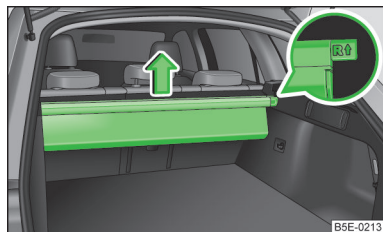

Fig. 94
- Remove the multifunction box from the receptacle in the direction of the arrow » Fig. 94.
- When inserting, push the end of the bar marked **R** ↑ into the right receptacle and the end of the bar marked **L** ↓ into the left receptacle. The arrows should be pointing forward » Fig. 94.